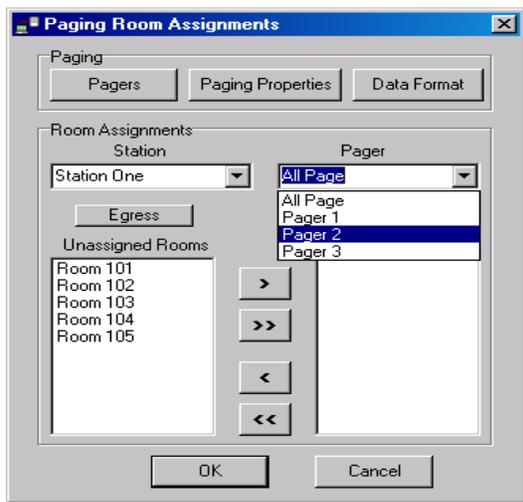

Figure 9
- At the **Paging Room Assignments** screen assign rooms to any of the pagers you have created by selecting the appropriate pager (use the down arrow next to the pager name to select a different pager) and then highlighting a room or rooms in the left pane and pressing the single arrow “>” (see **Figures 9 & 10**).